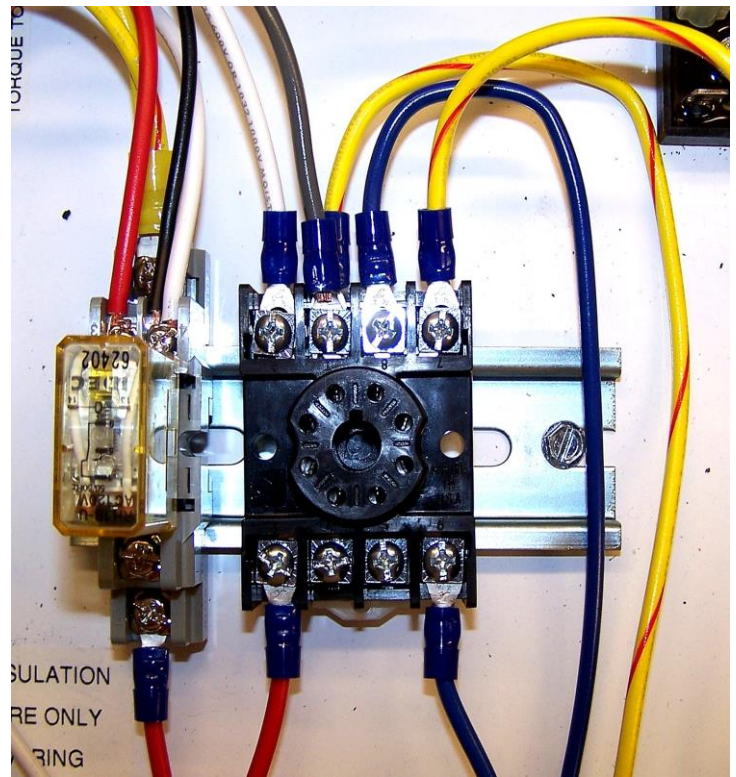

Figure 5
STEP 6 - A: Install the new relay socket on the din rail (Figure 5). The new socket has a White and Yellow/Red wires installed for the relay coil.
D: Reconnect the paired Gray and Yellow/Red wires to the upper socket terminal to the right of the White wire (Figure 5).
E: Reconnect the upper Blue wire to the upper socket terminal to the right of the paired Yellow/Red and Gray wires (Figure 5).
F: Reconnect the Red wire to the lower left socket terminal (Figure 5).
G: Connect the lower Blue wire to the lower right to terminal strip TS8 (Figure 5).